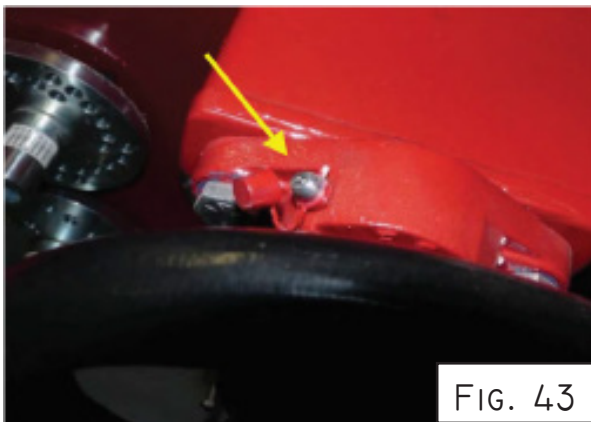

FIG. 43
7. Grease zerk locations: Figures 43 to 46 below and Fig. 21 on Page 12 (see circle and arrow).